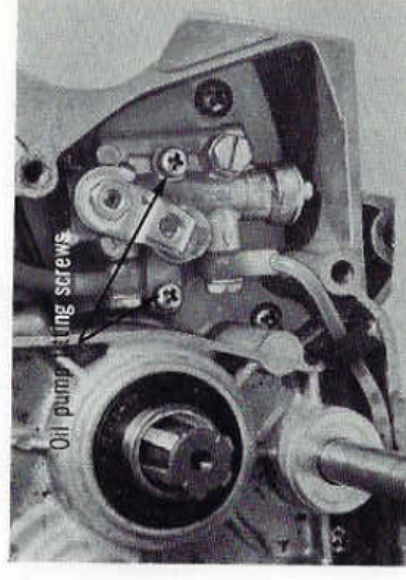

Fig. 8-2-9
9. After loosening 2 oil pump fitting screws with a cross head screw driver, take out the **oil pump** and then loosen 2 union bolts with a 12 mm wrench to disconnect the oil inlet and outlet lines from the oil pump. (Fig. 8-2-9)